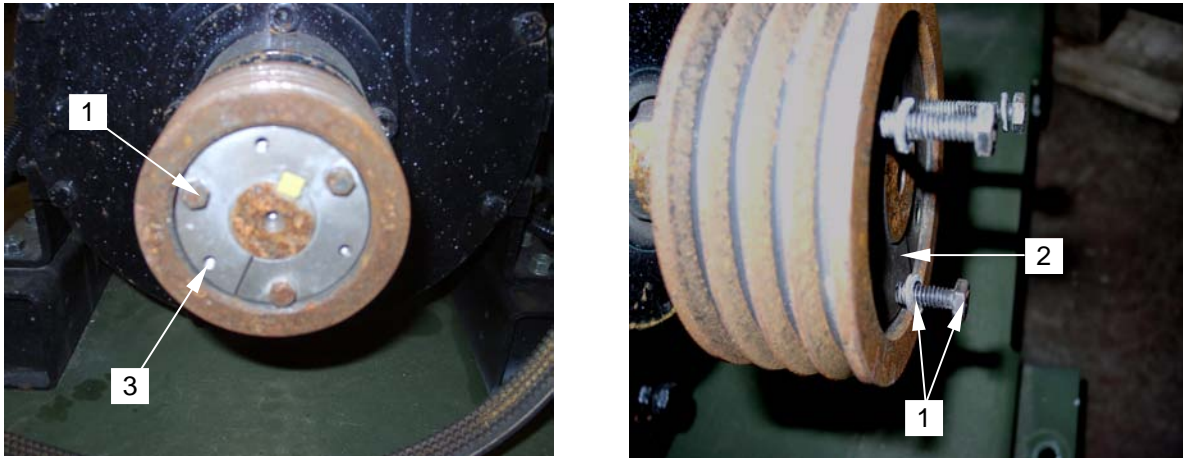

Figure 28. Removing the Engine Pulley Adapter
- a. Remove three bolts and flat washers (**figure 28, item 1**) that hold the pulley adapter (**figure 28, item 2**) to the engine drive shaft.
- b. Install bolts removed into the threaded holes (**figure 28, item 3**) on the face of the pulley adapter as shown.